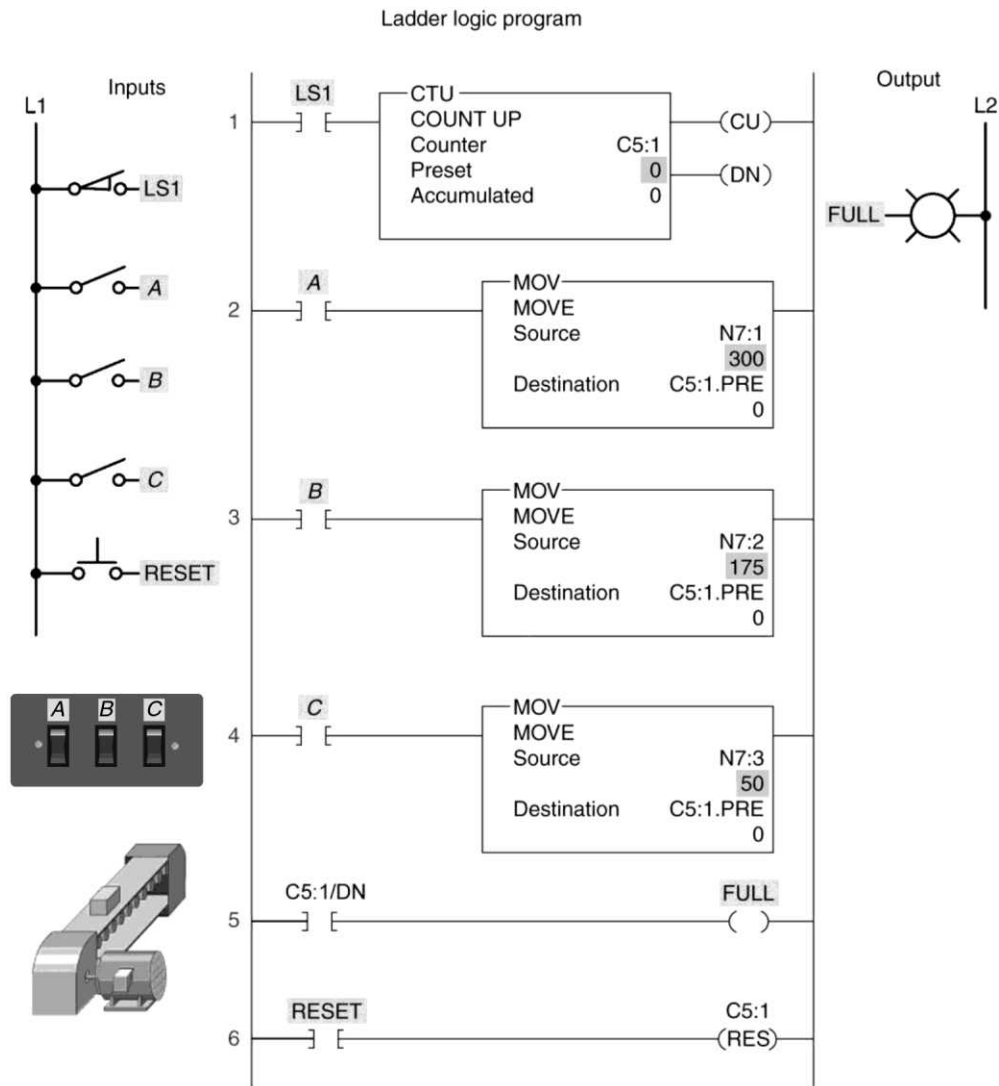

Figure 10-26 Counter data transfer program for assignment 2.
2) The counter data transfer program of Figure 10-26 is described in the text. Prepare an I/O connection diagram and ladder logic program that will simulate its operation. Use addresses that apply to your PLC installation. Enter the program into the PLC, and verify its operation.